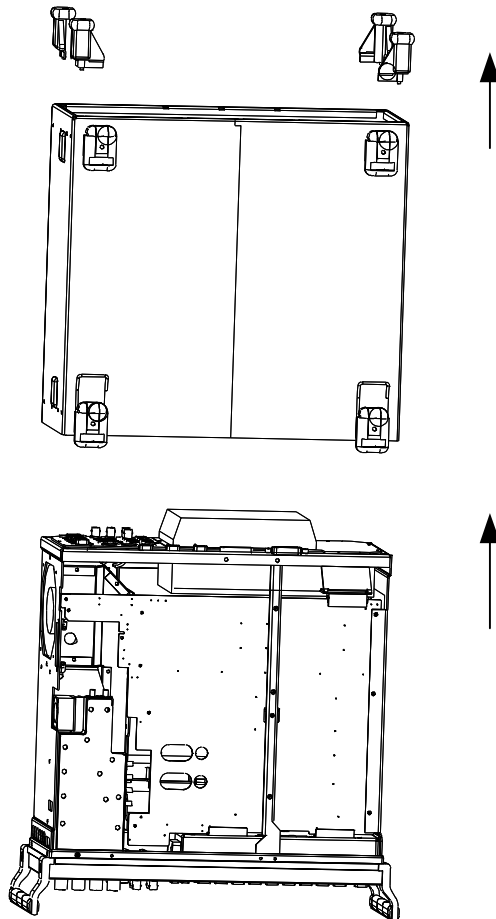

Fig. 1
- 1.3 Place unit on handles at the front, push casing upwards and remove (Fig. 1).
- Fit cover and cabinet feet back on in the reverse order to that described under 1.2/1.3 (Fig. 1).